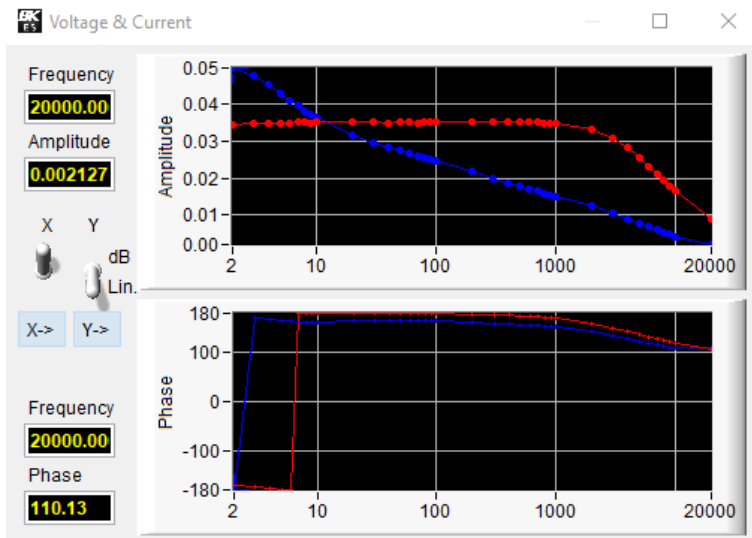

Figure 6.5 Voltage & Current Graph
- Graphs the magnitude and pahse of the acquired AC voltage and current in the frequency spectra. See **Figure 6.5**